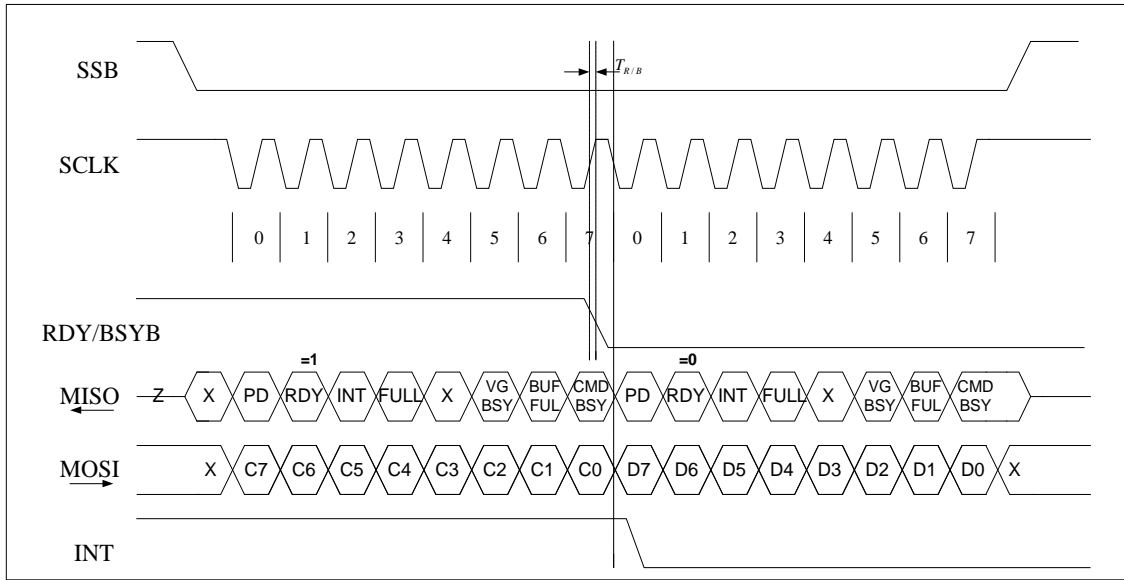

Figure 8-3 SPI Transaction Ignoring RDY/BSYB
For commands (i.e., DIG\_READ, SPI\_PCM\_READ) that read data from the ISD2100 device, MISO is used to read the data; therefore, the host must monitor the status via the RDY/BSYB pin and take the necessary actions. The INT pin will go low to indicate (1) data overrun/overflow when sending data to the ISD2100; or (2) invalid data from ISD2100. See Figure 8-3 for the timing diagram.